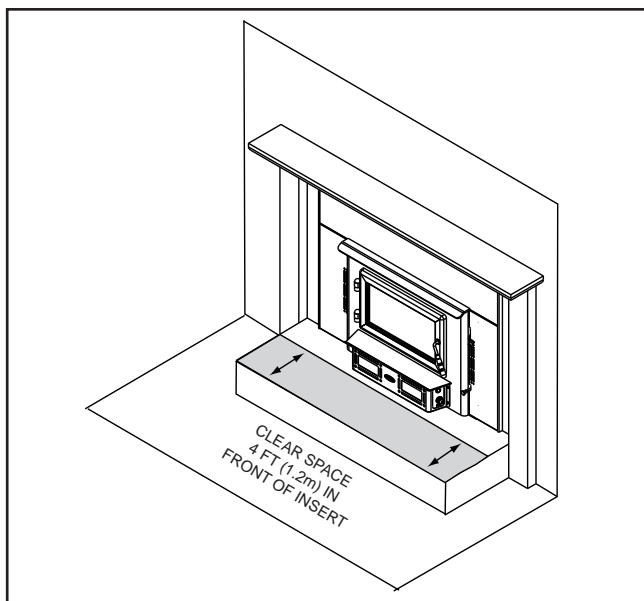

Figure 16.1 - Clear Space
- Do NOT place combustible objects within 4 ft (1.2 m) of the front of fireplace. **Figure 16.1.**